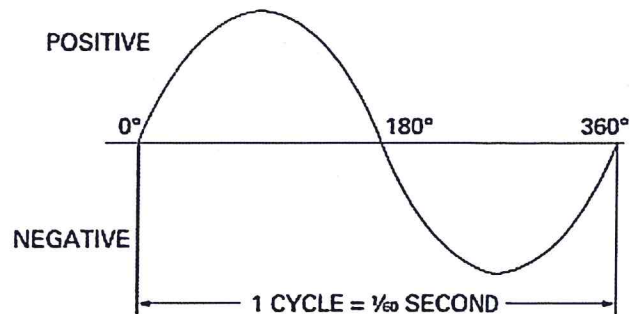

Figure 4 AC cycle.
Alternating current (AC) is electrical current that alternates between positive and negative values. In the positive half of the cycle, the current flows in one direction; during the negative half, the current reverses itself. The number of cycles completed in one second is called the frequency. In the United States, AC is almost always 60 cycles per second, or 60 Hertz (Hz). In other countries, the frequency is often 50 Hz. Figure 4 shows one cycle of AC.